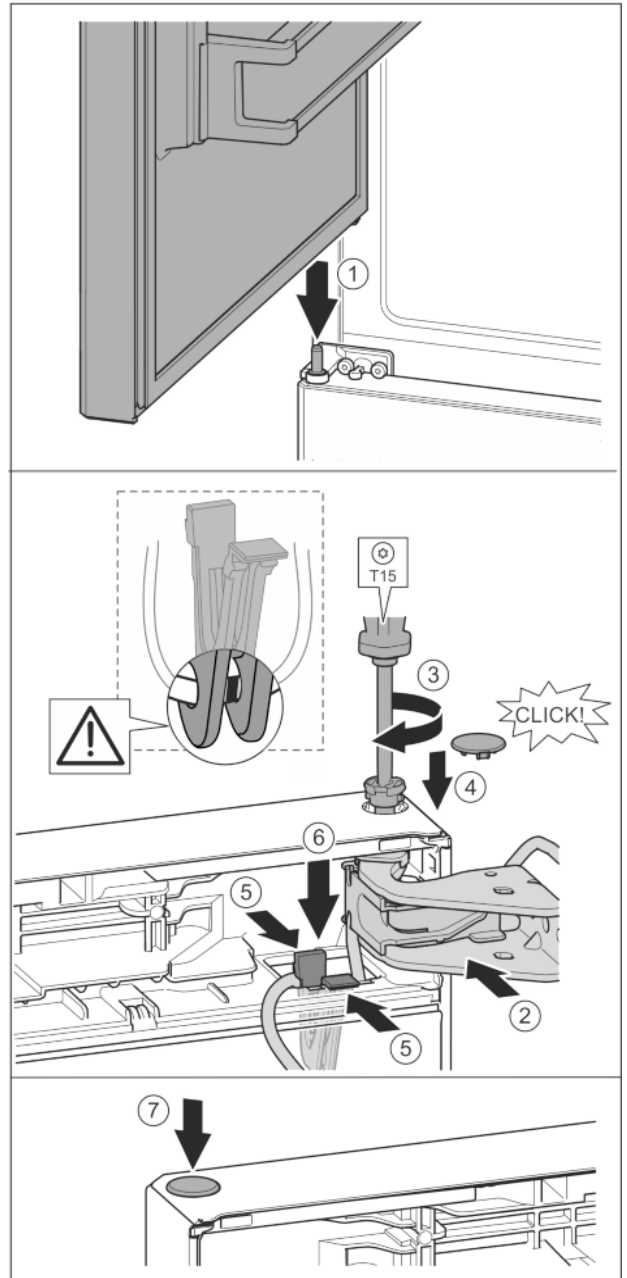

Fig. 36
- ▶ Place the upper door on the centre bearing pins Fig. 36 (1)
- ▶ Align the top of the door with opening in the bearing bracket. Fig. 36 (2)
- ▶ Insert the bolt and tighten with a T15 screwdriver. Fig. 36 (3)
- ▶ Fit the protective cover to protect the door: Insert the protective cover and check that it is attached to the door. If not, insert the bolt fully. Fig. 36 (4)
- ▶ Insert the holder with its cable into the opening. *Fig. 36 (5)*
- ▶ Press the holder downwards until the tab clicks into place. *Fig. 36 (6)*
- ▶ Insert the plugs. *Fig. 36 (7)*